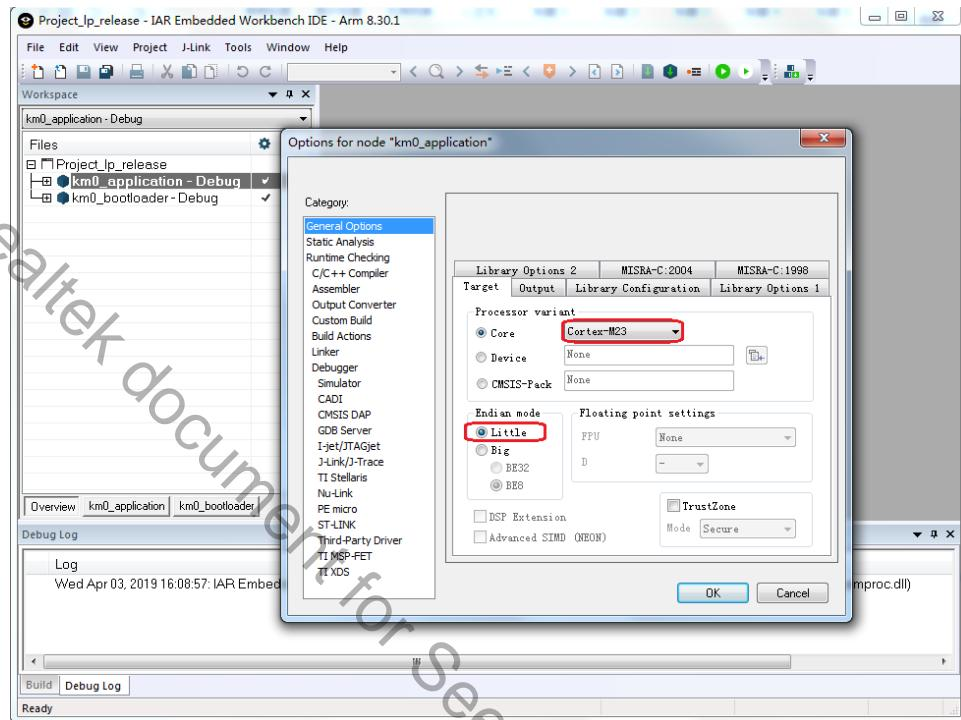

Fig 6-7 KM0 processor options
- (1) Open **project\realtek_amebaD_va0_example\EWARM-RELEASE\Project_ip_release.eww**.
- (2) Make sure km0_bootloader and km0_application are in Workspace. Click Project > Options, General Options > Target > Processor Variant > Core, verify the CPU configurations according to Fig 6-7.